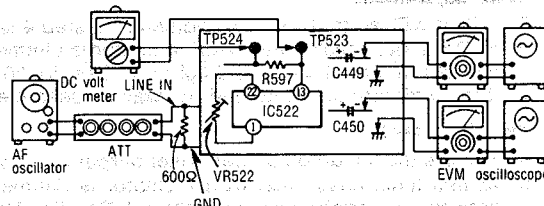

Fig. 24
1. Make the connections as shown in fig. 24 and apply 1kHz  $-27\text{dB}$  signal from LINE IN, and set the noise reduction selector to dbx IN position.